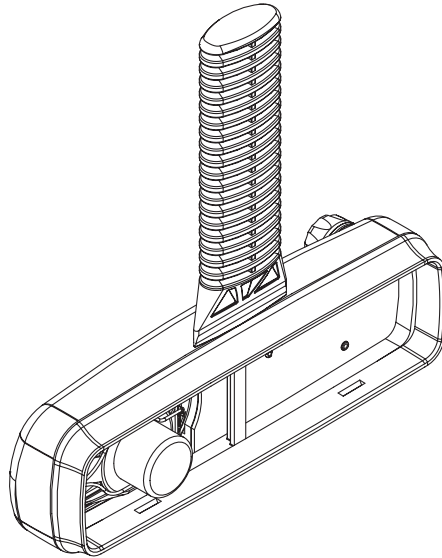

Figure 2-8: Control Head Back Housing Removal
1. To dismount the control head housing from the back housing, insert the dismantling tool in the groove between the two housings as shown in Figure 2-8.
1. Dismount the control head housing from the back housing as described for control head CDM750, Figure 2-8.